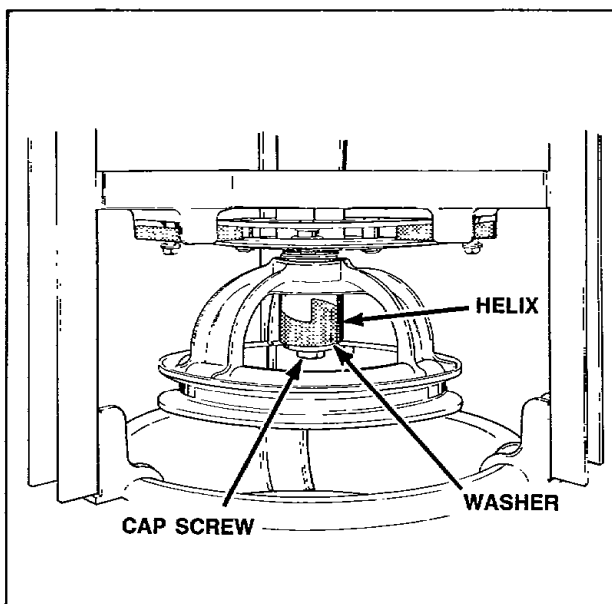

Figure 47
- 3. Remove screw, washer and helix holding drive pulley to the input shaft of the transmission assembly, *Figure 47*.
- n. Remove screw, washer and helix holding drive pulley to transmission shaft, *Figure 47*.
- o. Remove drive pulley from transmission shaft, *Figure 47*.